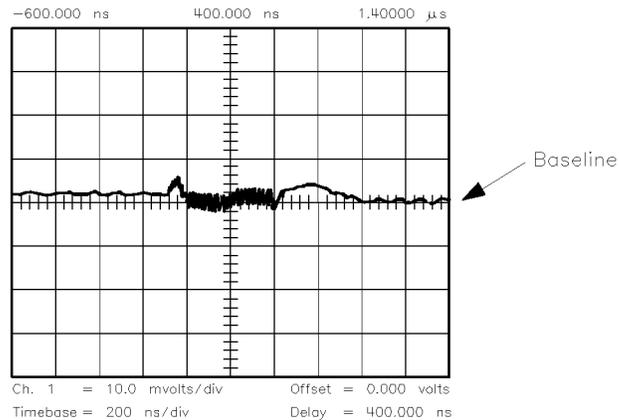

Figure 2-22. Measuring Maximum Voltage from the Baseline Video Feedthrough
16. On the oscilloscope, note the maximum voltage from the baseline (see Figure 2-22). Video feedthrough (V_p) = _____V_p